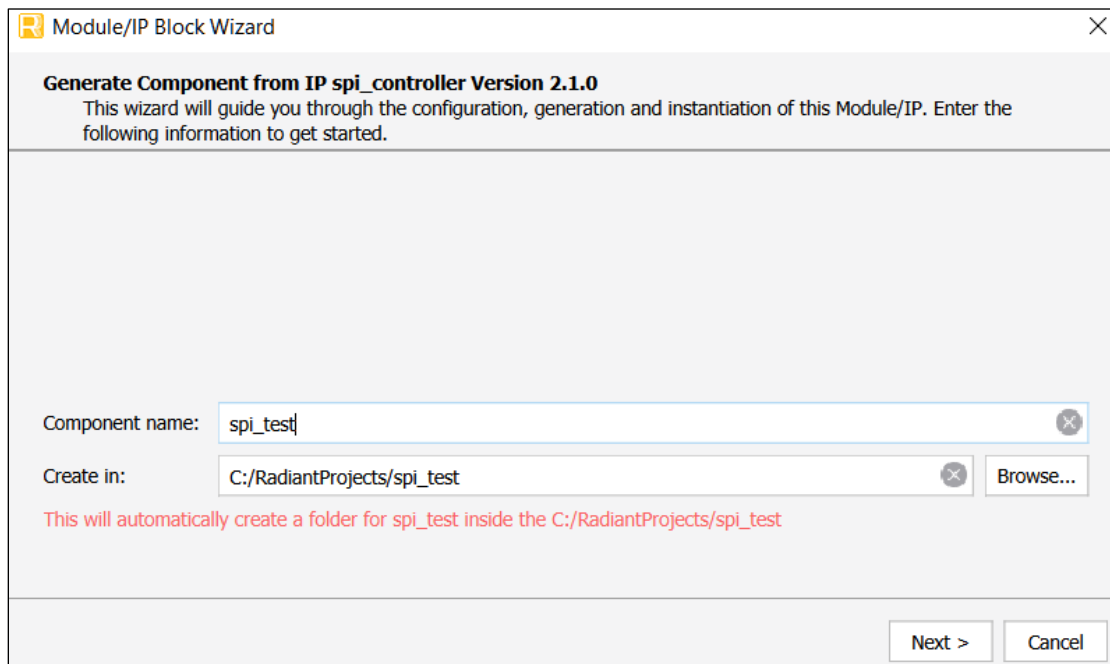

Figure 7.1. Module/IP Block Wizard
2. In the **IP Catalog** tab, double-click **SPI Controller** under **IP, Processors, Controllers, and Peripherals** category. The **Module/IP Block Wizard** opens, as shown in Figure 7.1. Enter values in the **Component name** and the **Create in** fields and click **Next**.
- Click **Finish**. All the generated files are placed under the directory paths in the **Create in** and the **Component name** fields shown in Figure 7.1.